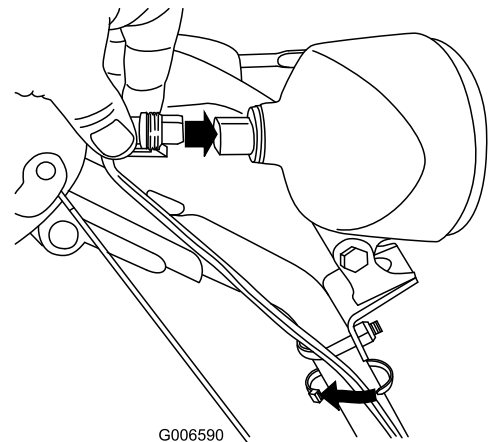

Figure 68
6. Insert the wire connector straight into the back of the headlight until it is securely in place (Figure 68).